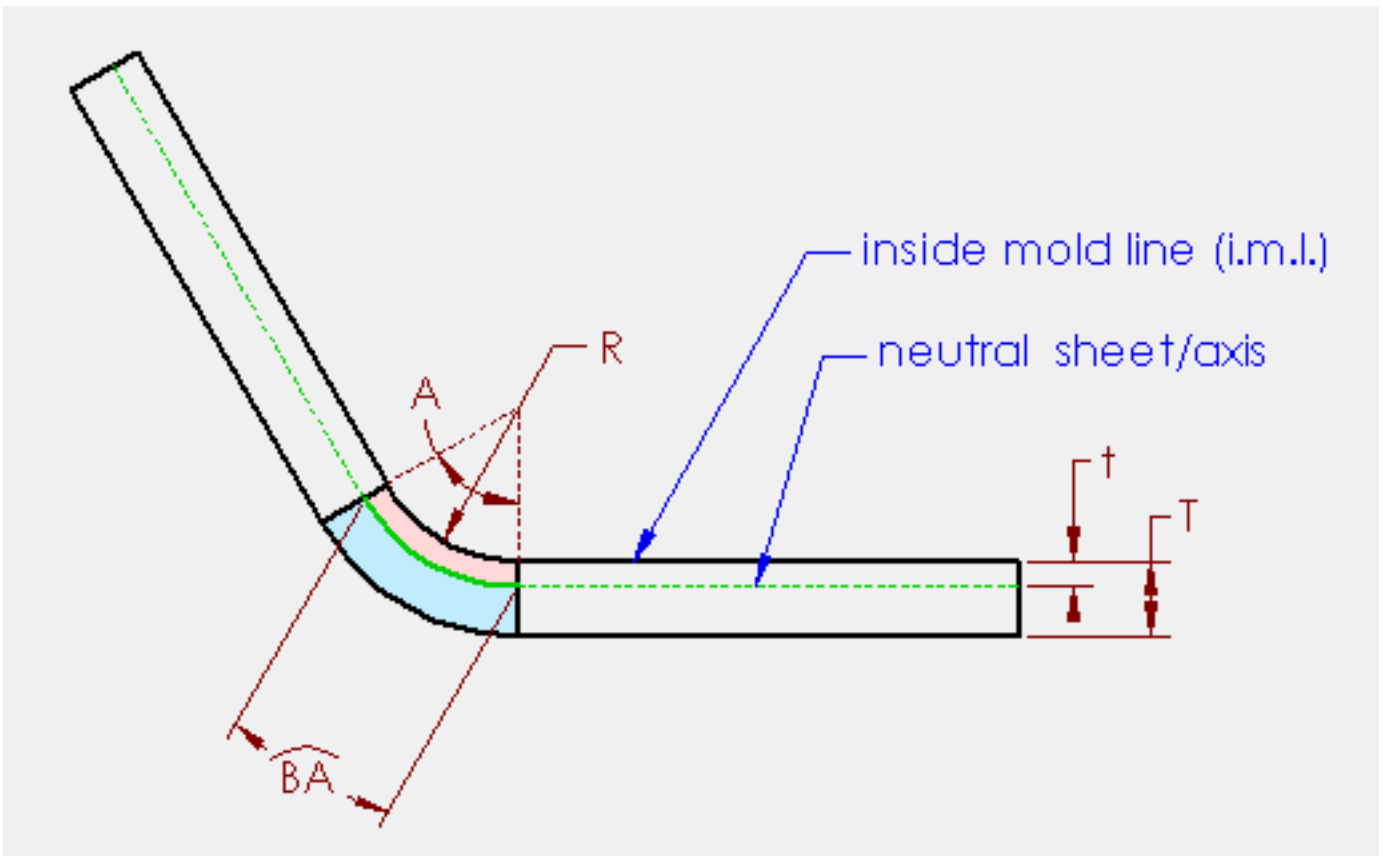

Figure 4
K-factor is a single value which can be used to represent how sheet metal bends fold/unfold over a wide range of geometric parameters. It is a single value which is used to calculate the bend allowance (BA) over a range of material thickness', bend radii and angles. Figures 4 and 5 will be used to help define K-factor.
Consider a neutral sheet or axis which is defined as an imaginary section through the bend region where there is no stretching or compression. It represents the only location within the bend region which does not deform. This concept is represented by the pink and blue regions in Figures 4 and 5. The Pink region compresses during bending where the blue region stretches. If this neutral sheet does not deform, then the arc in the bend region along the neutral sheet has the same length when it is bent as it does when it is flat. Therefore, the value BA is equal to the length of the arc of the neutral sheet in the bend region. This arc is represented in Figure 4 by the green arc. The location of the neutral sheet is dependant upon the